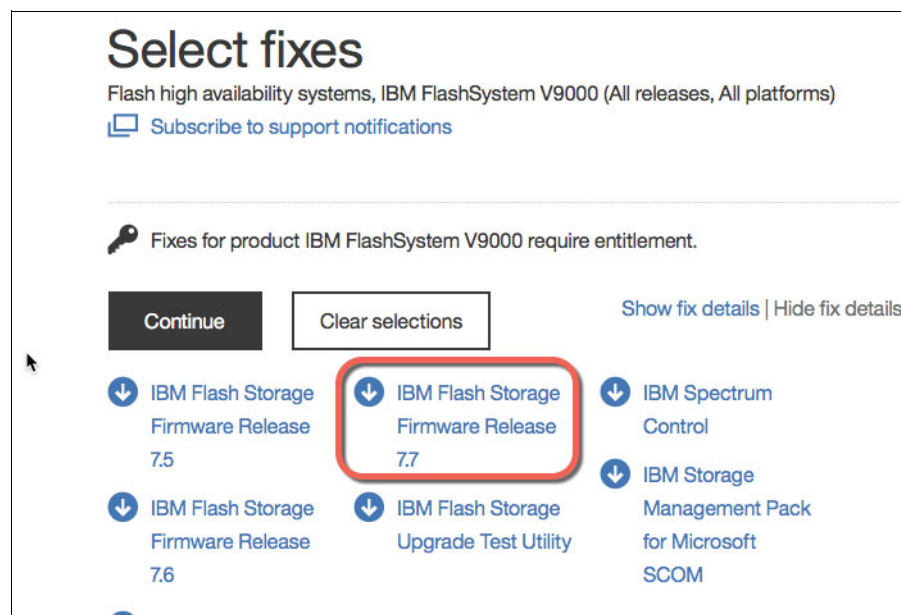

Figure 7-44 Select the Firmware Release family
3. The Select fixes panel (Figure 7-44) provides a selection of release families. IBM FlashSystem V9000 Release 7.7 and later is required for IBM FlashSystem V9000 System using 9846/9848 model AC3 control enclosure and 12F, 24F expansion enclosures. IBM model 92F requires version 7.8.